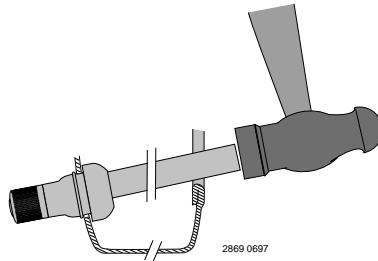

Figure 6 – Tap valve into place
- 9. Rap the end of the dowel sharply with a hammer to drive the valve into position. Be sure the shoulder on the valve seats against the tank head (the ridge around the valve body should be all the way through the hole in the tank head – see Figure 6).